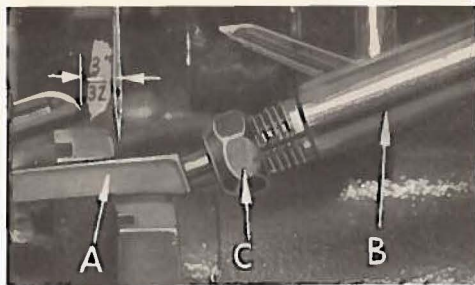

Fig. 4
At this point, insert lower looper (A, Fig. 4) into bar (B). With lower looper at left end of its stroke, set looper point $3/32$ inch from center of needle (Fig. 4) using looper gauge No. 21225- $3/32$. Do not have lower looper deflecting needle. Tighten nut (C). Now assemble differential (front) feed dog.